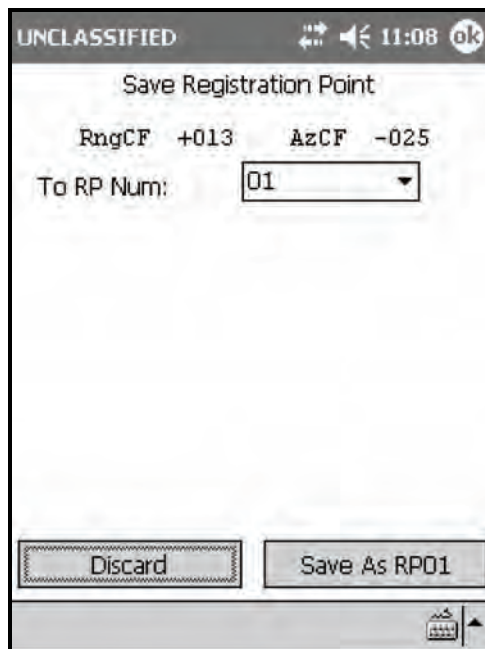

Figure 18-43. Registration: Save Registration Point screen.
- (35) The Solution/Gun Orders screen displays, and the firing data is recorded.
- (36) Announce new data, such as deflections and methods of fire.
- (37) If the adjustment is more than 50 meters, the mortar must be refired.
- (38) Select Shot.
- (39) Select the <Target> button.
- (40) The <Target> screen displays.
- (41) Select EOM.
- (42) Select Discard, or if the RP is to be recorded as a known point, select EOM – Record as Known Point.
- (43) Select the controlling FO from the pull-down menu.
- (44) Select Use All.
- (45) The Save Registration Point screen (Figure 18-43) displays. This screen displays the range correction factor (RngCF) and the azimuth correction factor (AzCF).